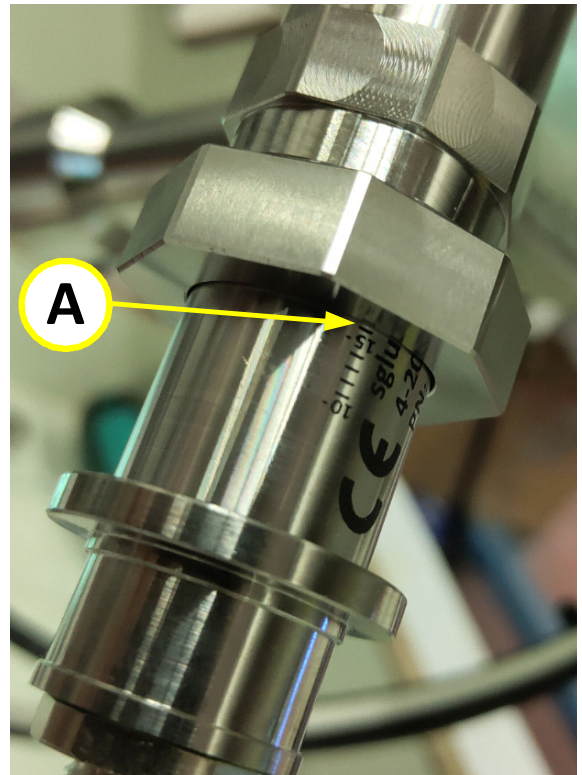

Figure 10-24: Using mm scale as position reference
- Step 1.** Before removing the UVIS sensor, look at the point where the millimeter scale on the sensor touches the securing nut (**A** in **Figure 10-24**).
- Step 8.** When you return the sensor to its place, make sure to insert it to the same reference point on the mm scale (**A** in **Figure 10-24**) recorded in **Step 1.** on page 10-147.